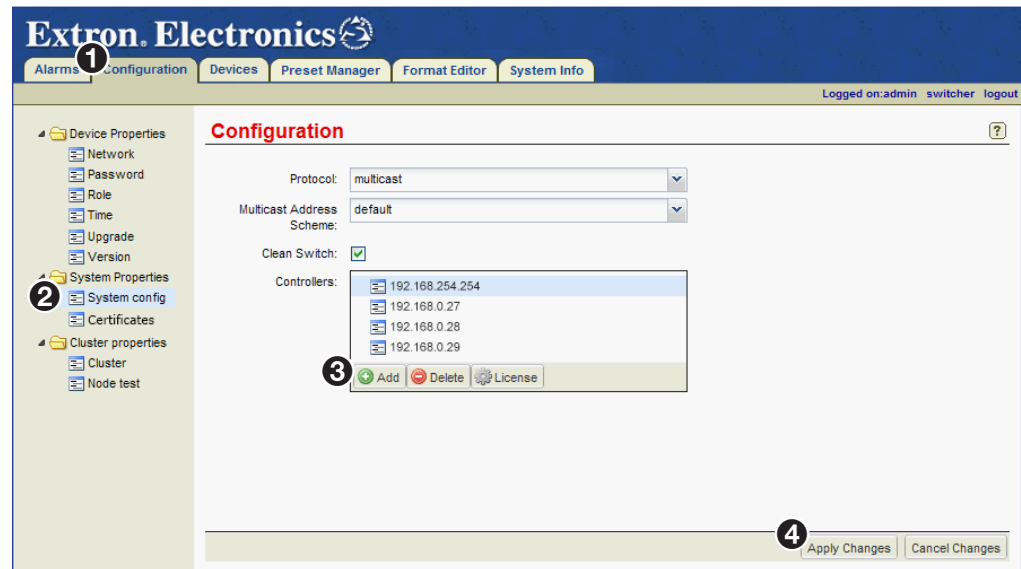

Figure 162. Configuration Page — Adding Controllers to the Controller List
The **Configuration** page opens (see figure 162, ①).